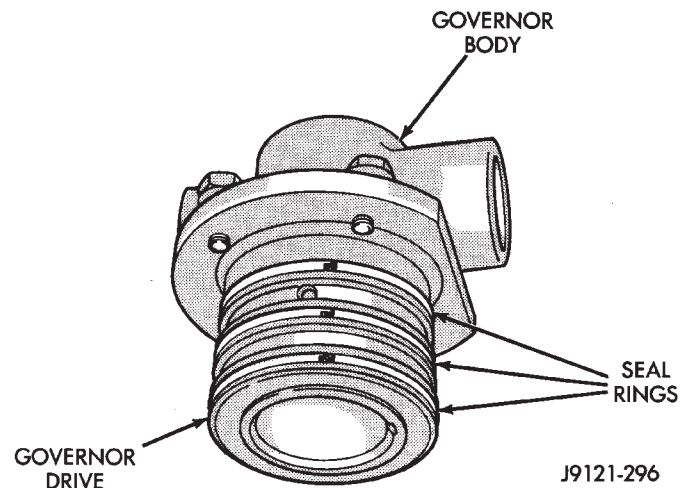
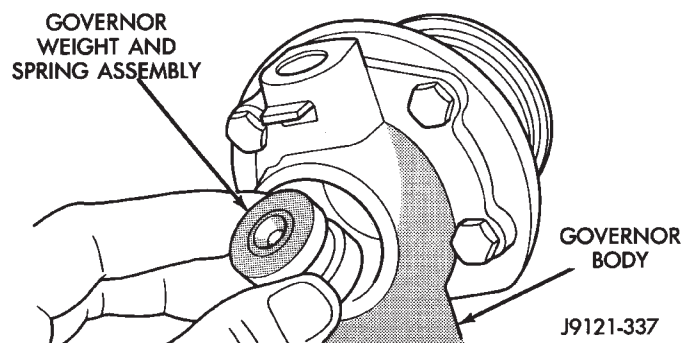

Fig. 57 Governor Drive Seal Rings
Fig. 58 Installing Governor Weight Assembly
(3) Install new seal rings on governor drive. Be sure ring ends are securely interlocked before proceeding (Fig. 57).
(4) Assemble governor drive and body. Be sure filter is properly seated and positioned in governor body before tightening attaching bolts.
(5) Assemble governor inner and outer weights and spring. Then install weight assembly in governor body (Fig. 58). Be sure all retaining snap rings are securely seated.